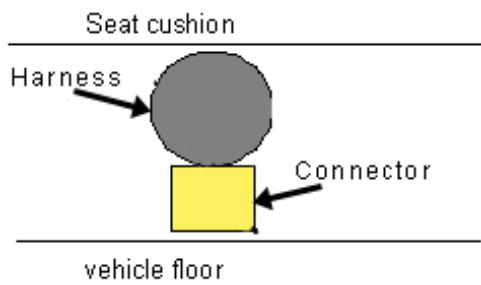

Figure 3c
6. Attach the new SAB connector to the seat harness and metal rod as shown in Figure 3c and 4c.
- Make sure the connector is secured to the bottom of the harness as shown in Figure 3c.